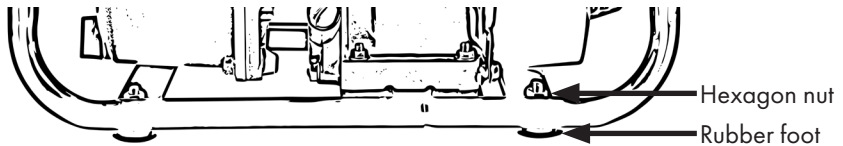

Figure 3
- Attach the rubber feet to the bottom of the frame as shown in Figure 3 and secure them with the nuts.